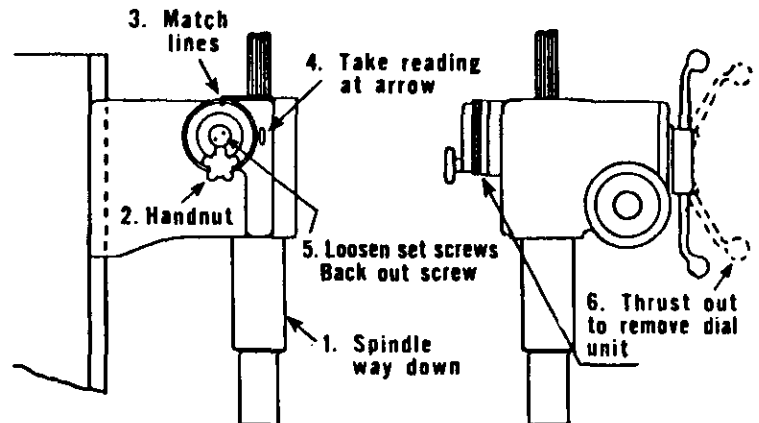

FIG. 8
(Dwg. 20-605) (Fig. 8)
7. To replace the feed trip dial, run the spindle down to the end of its travel (1). See that the scribed lines on the rim of the dials (3) are in line and then place the dial back on the stud so that the arrow points at the SAME FIGURE as it did when the dial was removed (4) (Refer to Paragraph XI) (Fig. 8).
12. After the desired setting is obtained, lock the lock screw (5) (Fig. 8) against rotation by tightening the two small set screws in the head of the screw.